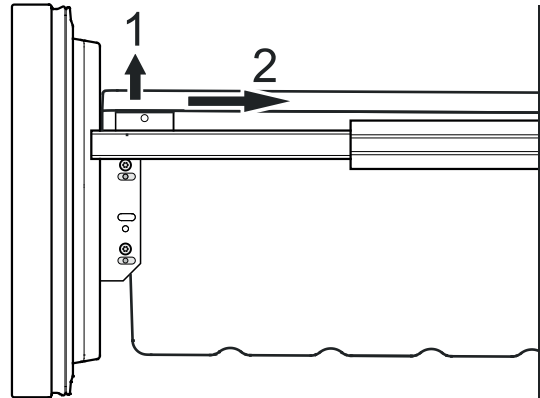
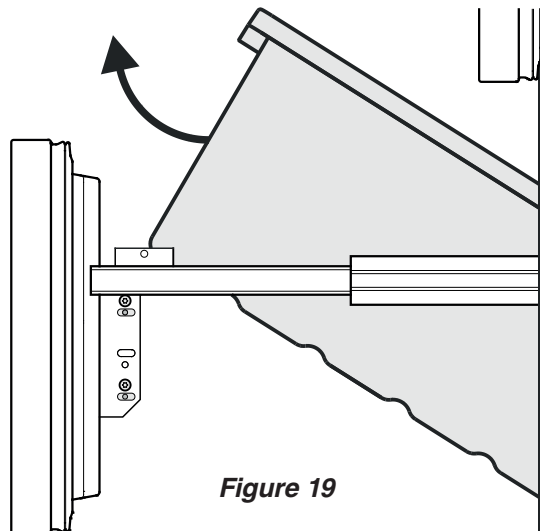

Figure 18
Figure 19
- Unlatch the container on the left and right corners by pulling upwards (1) - **Figure 18**.
- Slide the container backwards (2) - **Figure 18**.
- Tilt the container at an angle and remove - **Figure 19**.
- Remove the freezer drawer containers as shown in *Figure 18* and *Figure 19*.